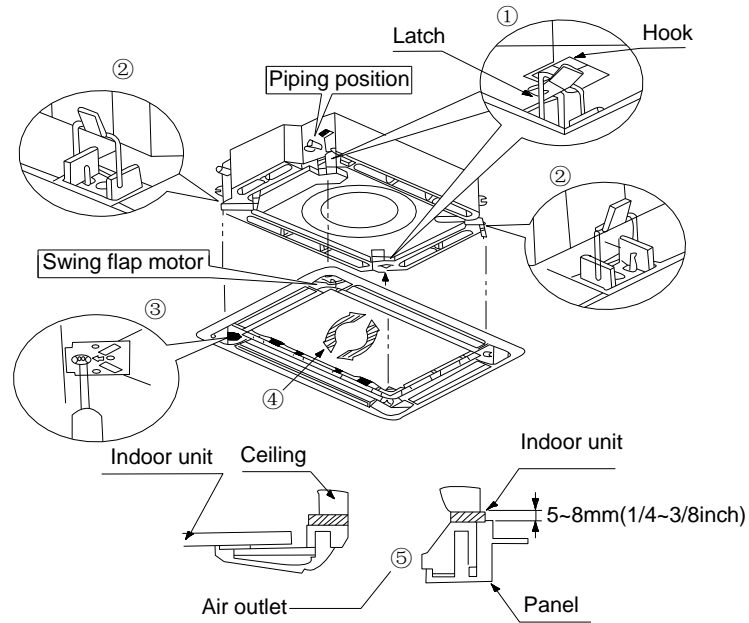

Figure 3-1-45
- (2) Place the panel at the unit, and latch the hooks beside and opposite the swing flap motor.
- (3) Latch other two hooks.
- (4) Tighten four hexagonal screws under the latches about 15mm (5/8inch).
- (5) Adjust the panel along the direction indicated by the arrow as shown in Figure 3-1-45.
- (6) Tighten the screws until the thickness of the sealing material between the panel and the indoor unit reduces to 5~8mm (1/4~3/8inch).